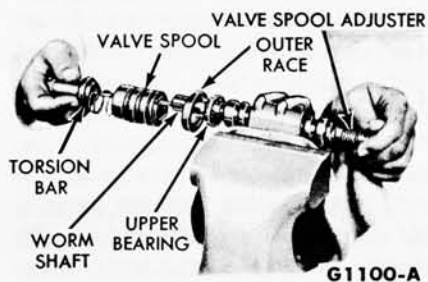

FIG. 34—Removing Valve Spool Adjuster
3. Remove the torsion bar, valve spool, actuator, seal, bearing and race from the worm shaft (Fig. 34). Tap the end of the torsion bar with a soft-faced hammer, if necessary. **The valve spool and the actuator assembly are spring-loaded.** Discard the lower bearing race seal. Separate the valve spool and the actuator assembly from the torsion bar by turning the valve spool and actuator while turning the torsion bar.